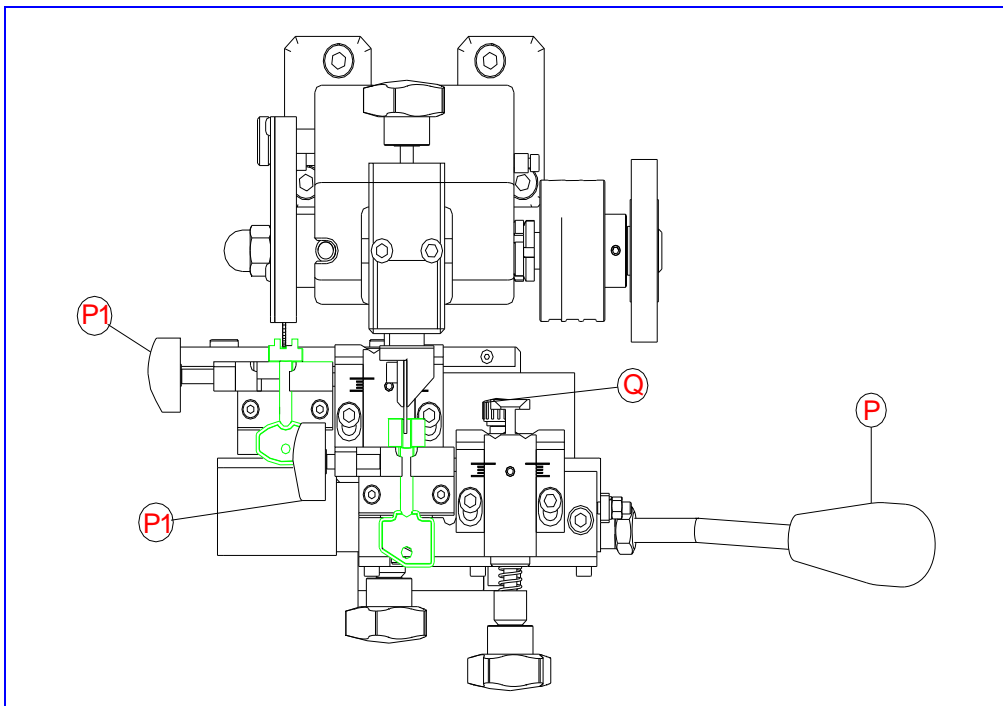

Fig.4
- Undo the knobs (15) and align the second position of the slide (R2) with the reference point (S).
- Insert the keys into the clamps, taking care that the blade of the key butts up against the front stop of the clamp, as shown in Fig.4. Once the key has been inserted clamp the keys by turning the knobs (P1).
- Start the machine and holding the slide by means of the lever, bring the keys towards the tracer point (I) and the cutter (F).
- We recommend that you work slowly, without forcing the cutter. Cutting is achieved by moving the clamp with vertical movements, to do this you have to move the rod (Q) upwards and using the lever (P) move the clamp vertically.